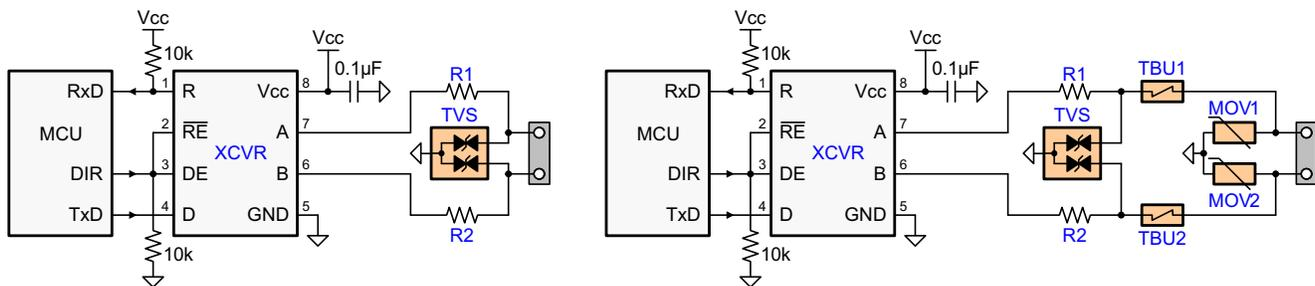

Figure 22. Transient Protections Against ESD, EFT, and Surge Transients
The implementation of IEC-ESD protection on-chip increases the robustness of equipment significantly, which most likely experience discharge events due to human contact with connectors and cables. Designers may also want to implement protection against much longer duration transients, typically referred to as surge transients. Therefore, Figure 22 suggests two circuit designs that provide protection against light and heavy surge transients, in addition to ESD and EFT transients. Table 6 presents the associated bill of material.
While the transient protection is similar to the one in Figure 22(left circuit), an additional high-voltage capacitor is used to divert transient energy from the floating RS-485 common further towards Protective Earth (PE) ground. This is necessary as noise transients on the bus are usually referred to Earth potential.